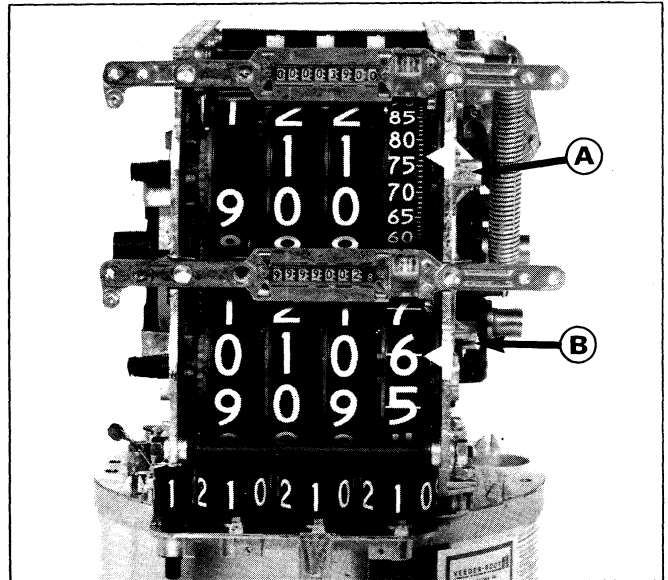

Figure 43.
3. Wheels in Same Bank Do Not Drive (Figures 43 & 44).